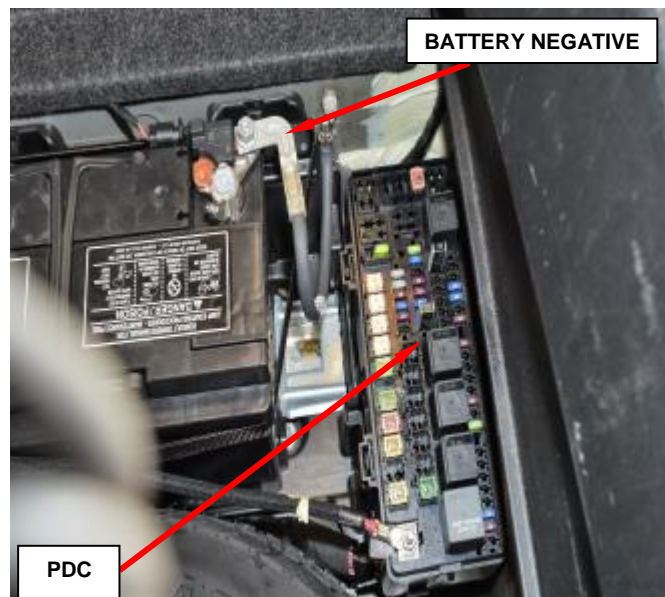

Figure 58 – Battery Negative
1. Disconnect and isolate the battery negative cable then remove the two Airbag Module fuses from the Power Distribution Center (PDC), see the PDC cover for the fuse locations. Wait two minutes for the system capacitor to discharge before further service (Figure 58).